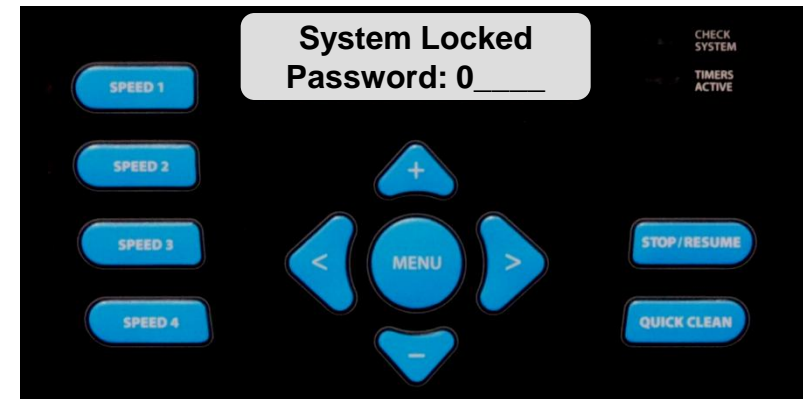

Figure 82
5. When you press any key other than the Stop/Resume button after the timeout has passed, you will be asked to enter the password (fig 82).